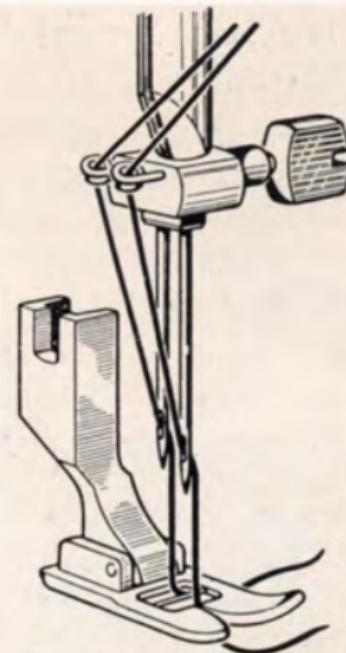

Fig. 64
- a) Bring the needle to its highest position by turning the balance wheel towards you. Loosen needle clamping screw, remove needle, replace it with twin needle (Fig. 64 a) and tighten clamping screw again. Be careful not to bend the needles when inserting them.
- b) Substitute the normal hinged presser foot with the presser foot for double needle (Fig. 64).
- a) the lower or bobbin thread, after passing under the tension spring of the bobbin case, must be threaded through the hole in the bobbin case positioning finger (Fig. 64 b).